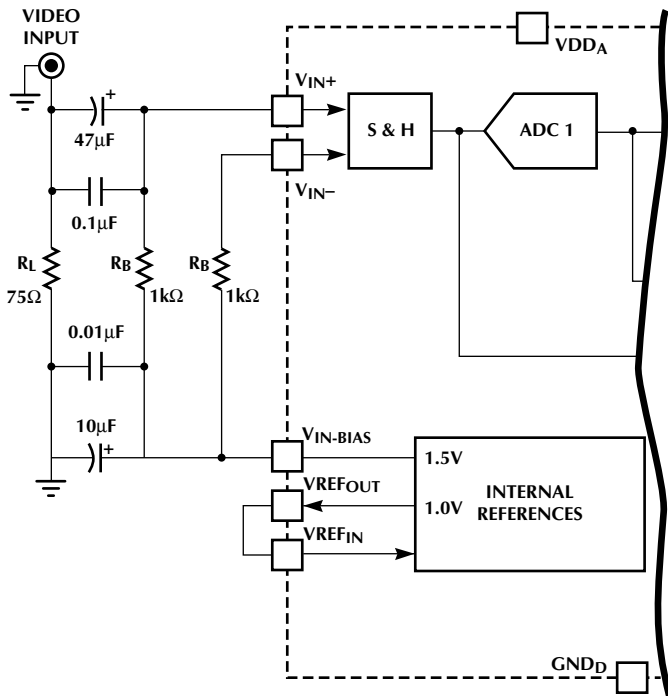

Figure 1. AC Coupled Input, External Resistors Bias the Input.
**Note:** Circuit in dashed lines is an optional 1175 input network which can be replaced with circuits in Figure 1 or 2.